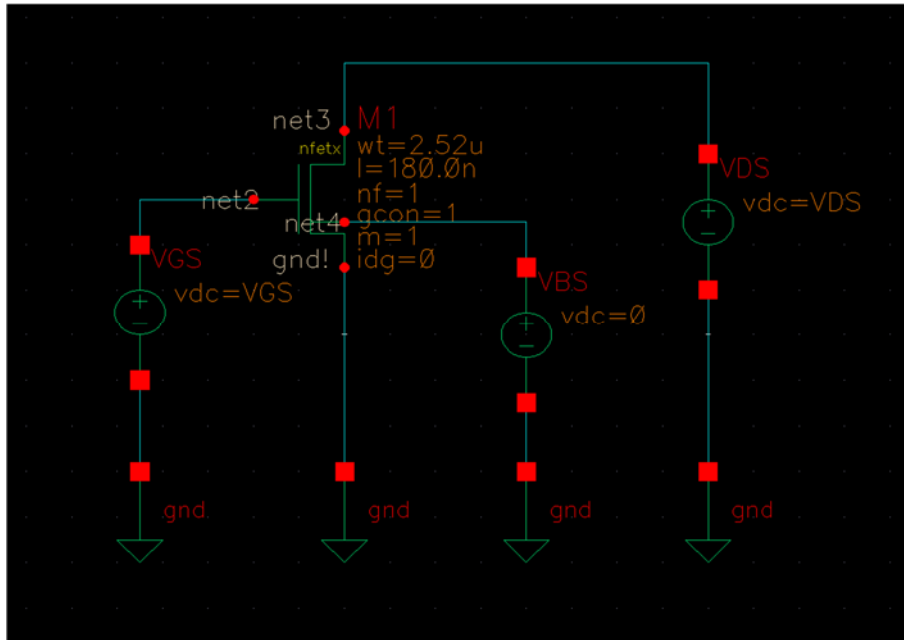
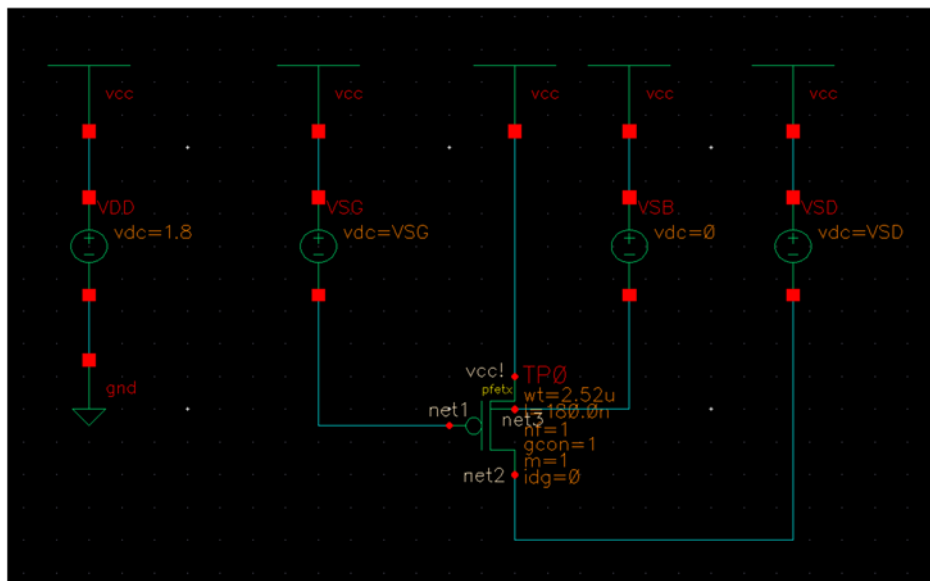
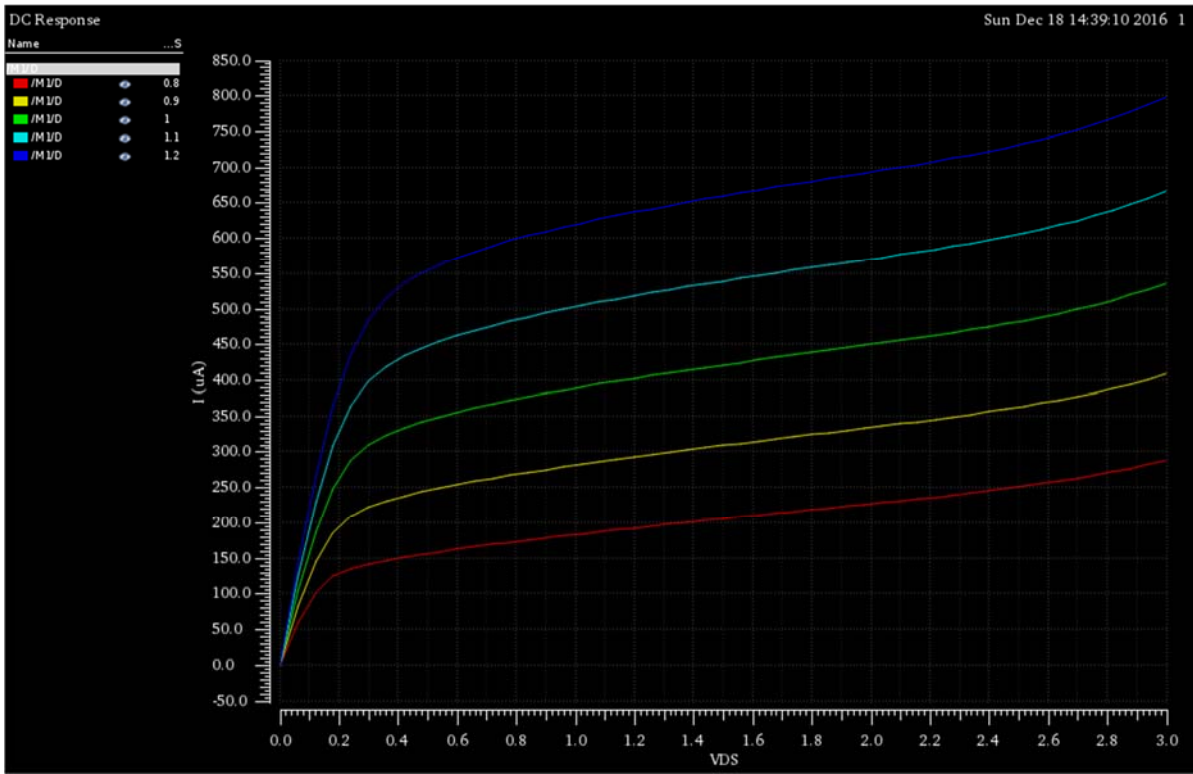
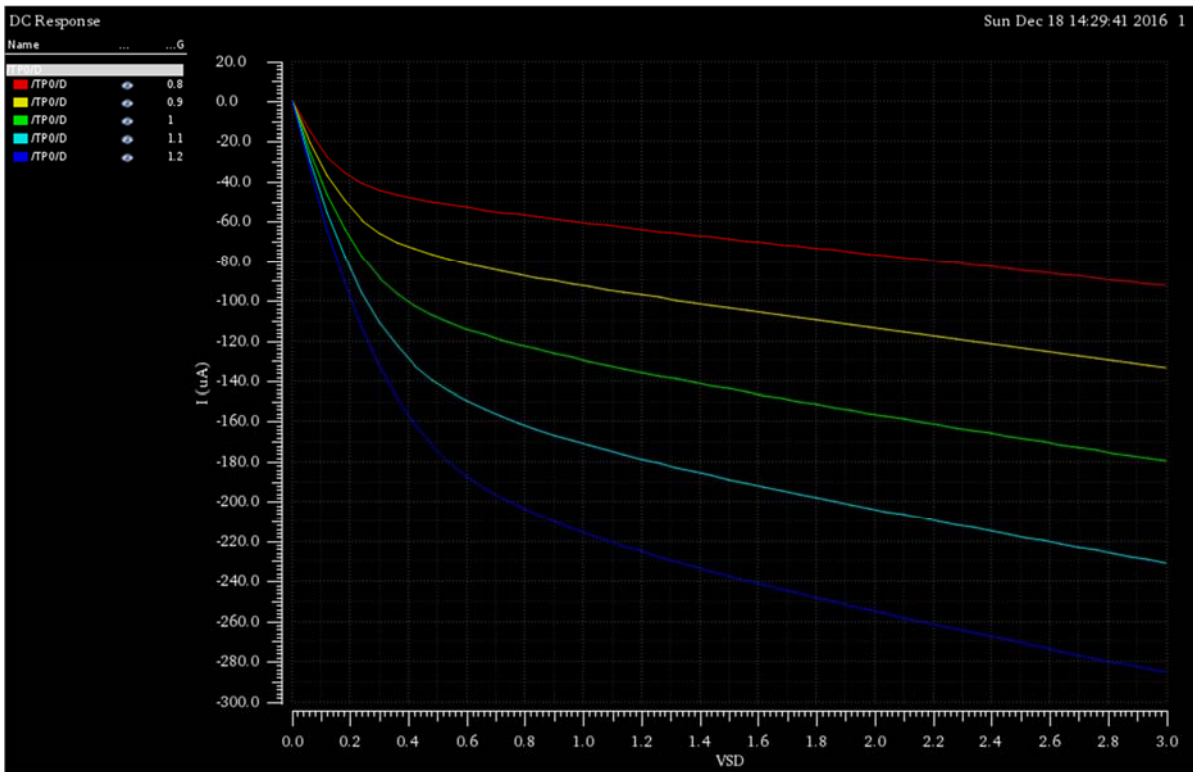

Figure 1-15: Test Setup for the NMOS Transistor
Figure 1-16: Test Setup for the PMOS Transistor
Figure 1-17: Parametric Plot of the NMOS Transistor
Figure 1-18: Parametric Plot of the PMOS Transistor
The test setups for the NMOS and PMOS transistors are shown in Figure 1-15 and Figure 1-16, which will produce the plots shown in Figure 1-17 and Figure 1-18, respectively, using parametric analysis.
To measure λ you need to do a DC sweep of V_{DS} and plot I_D as shown in Figure 1-17. Each curve represents a different V_{GS} value. Any one of these curves can be used to calculate λ . Make sure that V_{BS} is 0V for this simulation. The formula for calculating λ given two points on the saturation portion of a single curve is:
V_{T0} can also be obtained from Figure 1-17. Using the saturation portion of two curves with equal V_{DS} then V_{T0} can be calculated as:
2. Use Cadence to produce I_D versus V_{DS} versus V_{GS} plots similar to Figure 1-17 for transistors of size $1.26 \mu\text{m}/180 \text{ nm}$ and $2.52 \mu\text{m}/180 \text{ nm}$. Sweep V_{GS} from 0.8 V to 1.2 V with 5 steps (100 mV step size).